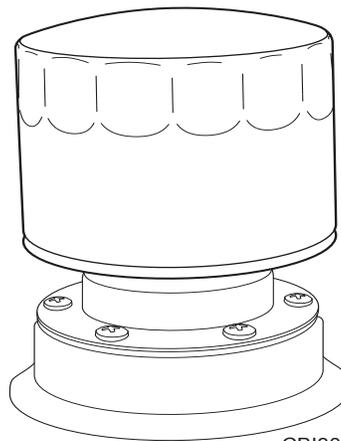

Figure 6.49 - Remove/Inspect Breather Element
2. Clean Area- Clean any debris off the filter element on top of the hydraulic tank (Figure 6.49). Clean the area above and around the breather also to ensure no debris enters the system during service.